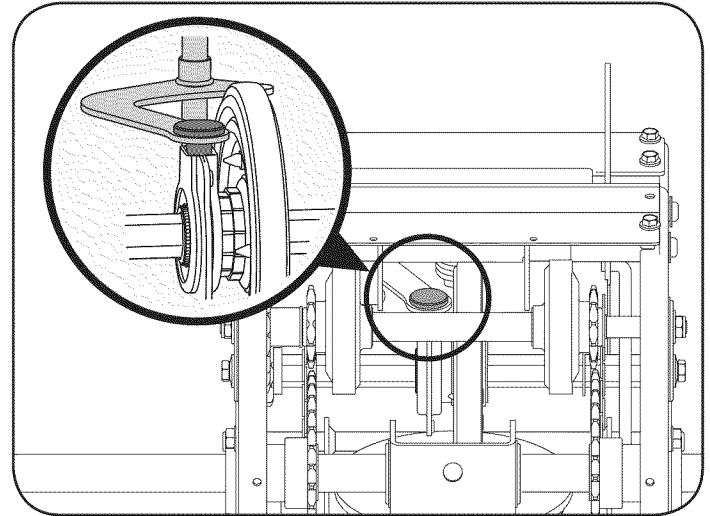

Figure 39
- Reposition the friction wheel assembly in the snow thrower frame. Insert the pin from the speed selector arm assembly into the friction wheel assembly and hold assembly in position. Refer to Figure 39.